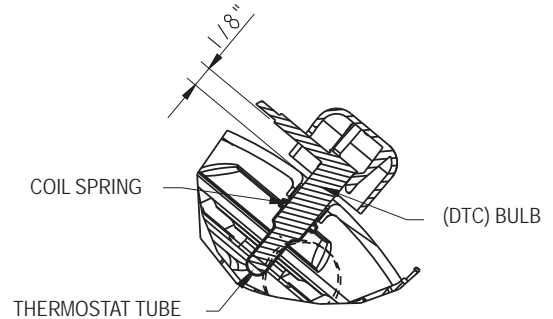

Figure 6. Bulb installation on top of the compressor
c. Spread a thin film of thermal grease around the DTC bulb. Press the DTC bulb into the thermostat tube on top of the compressor until the bulb bottoms out in the thermostat tube. Please install by hand without using excessive force. Copper tube from the DTC bulb should be approximately [1/8"] off the top of the compressor. Take care and avoid damaging or scratching the bulb. Please see Figure 6.
d. Snap the thermal cap onto the DTC bulb on top of the compressor. If there is a need to remove the thermal cap due to height limitations, thermal insulation for the bulb is strongly recommended. Please see Figure 6.